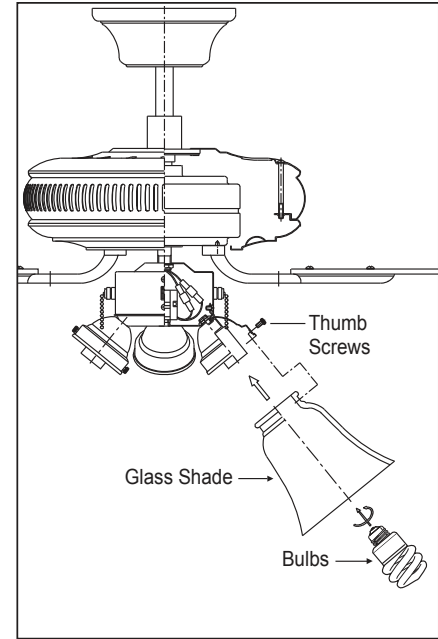

Figure 23
3. Mount the glass shades to the light fixture by unscrewing partway the thumbscrews on the glass holders, insert the glass, then gently tighten the thumbscrews by hand evenly to the glass. DO NOT OVER TIGHTEN (Fig. 23).